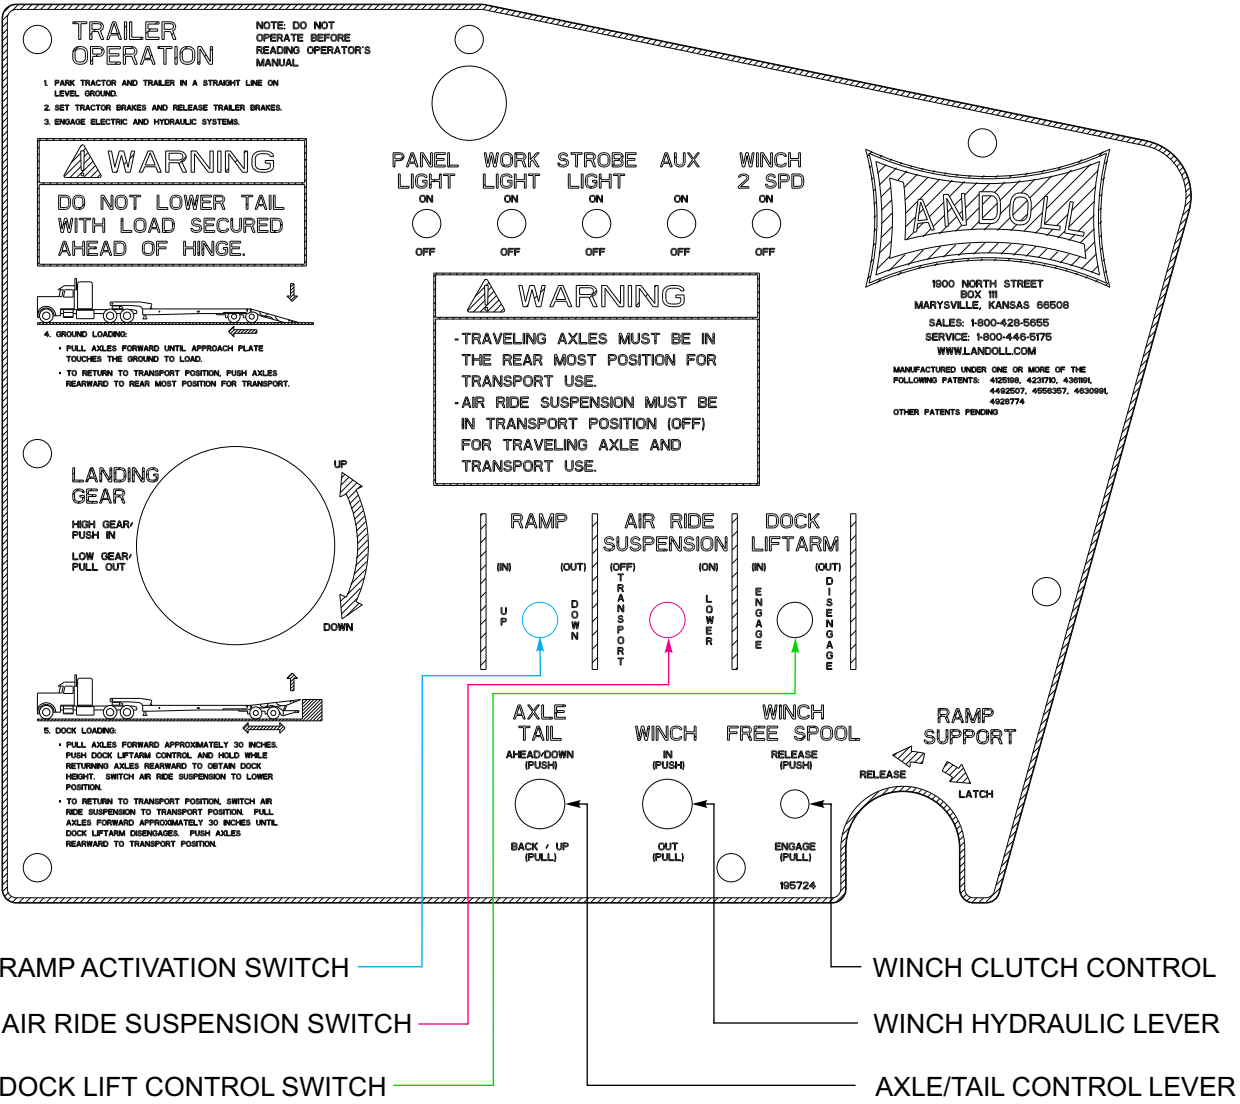

Figure 3-3: Hydraulic Controls
The Axle/Tail Control Lever is located on the control panel (See Figure 3-3.) The lever is used both for loading/unloading and dock leveler operation. See step 2 of “Dock Leveler Control Operation (Option)” on page 3-17 for use of Axle/Tail Control Lever for dock leveler operation. The Axle/Tail Control Lever is beside the winch control lever and has three positions (See Table 3-1.)
1. The 900E Series semitrailer comes equipped with a “dump valve” on the air ride suspension as standard equipment (See Figure 3-3.) The valve has two primary purposes.
The Work Light Switch is on the hydraulic control panel (**See Figure 3-3.**) It illuminates the hydraulic control panel and controls the optional work lights mounted on the bulkhead. The work lights illuminate the upper deck.
1. The Winch Hydraulic lever is located on the driver's side of the semitrailer under the outer frame beam (See Figure 3-3.) It is the second lever from the left and has three positions (See Table 3-2.)